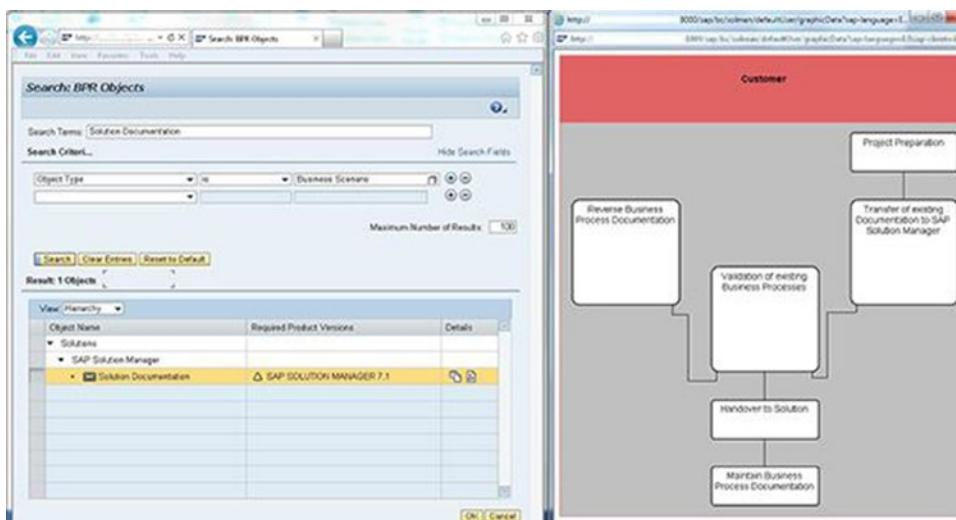

Figure 10-8. Searching the BPR
- Use the t-code /solar01 and select the structure table as shown in Figure 10-8. From the Source drop-down menu, select the Extended Search in BPR option.